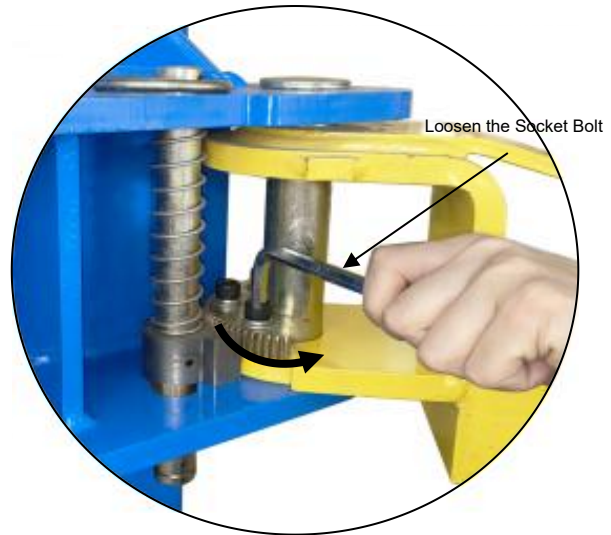

Fig. 35
2. Lowering the carriages down to the lowest position, then use the 8# socket head wrench to loosen the socket bolt (**See Fig.35**).